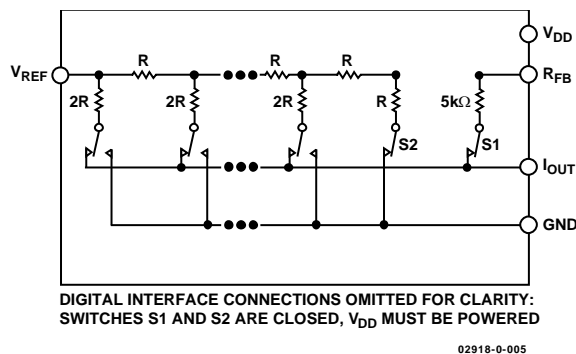

Figure 17. Equivalent R-2R DAC Circuit
The DAC architecture uses a current-steering R-2R ladder design. Figure 17 shows the typical equivalent DAC. The DAC contains a matching feedback resistor for use with an external I-to-V converter amplifier. The R_{FB} pin is connected to the output of the external amplifier. The I_{OUT} terminal is connected to the inverting input of the external amplifier. These DACs are designed to operate with either negative or positive reference voltages. The V_{DD} power pin is used only by the logic to drive the DAC switches on and off. Note that a matching switch is used in series with the internal 5 k Ω feedback resistor. If users attempt to measure the R_{FB} value, power must be applied to V_{DD} to achieve continuity. The V_{REF} input voltage and the digital data (D) loaded into the corresponding DAC register, according to Equation 1 and Equation 2, determine the DAC output voltage.